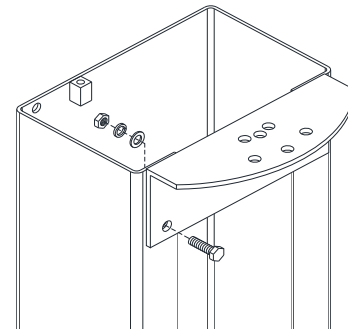

Fig 3 – Column Extension
- Assemble Overhead Mounting Bracket to the Column Extension using (4 sets) M12 x 25 Hex bolts, flat washers, lock washers, and nuts. Repeat for opposite bracket and extension. See Fig 3 below.